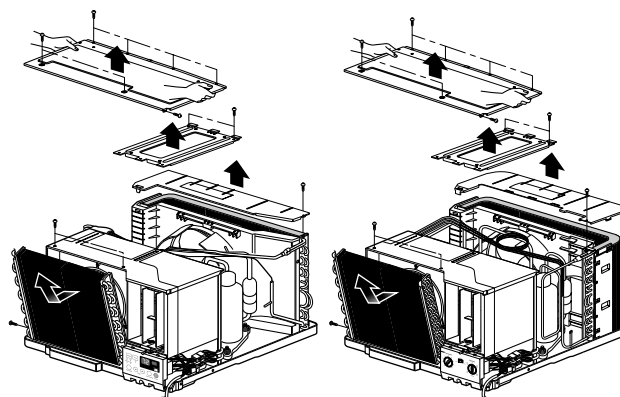

Figure 20
4. Remove the covers and the brace. (See Fig. 20)